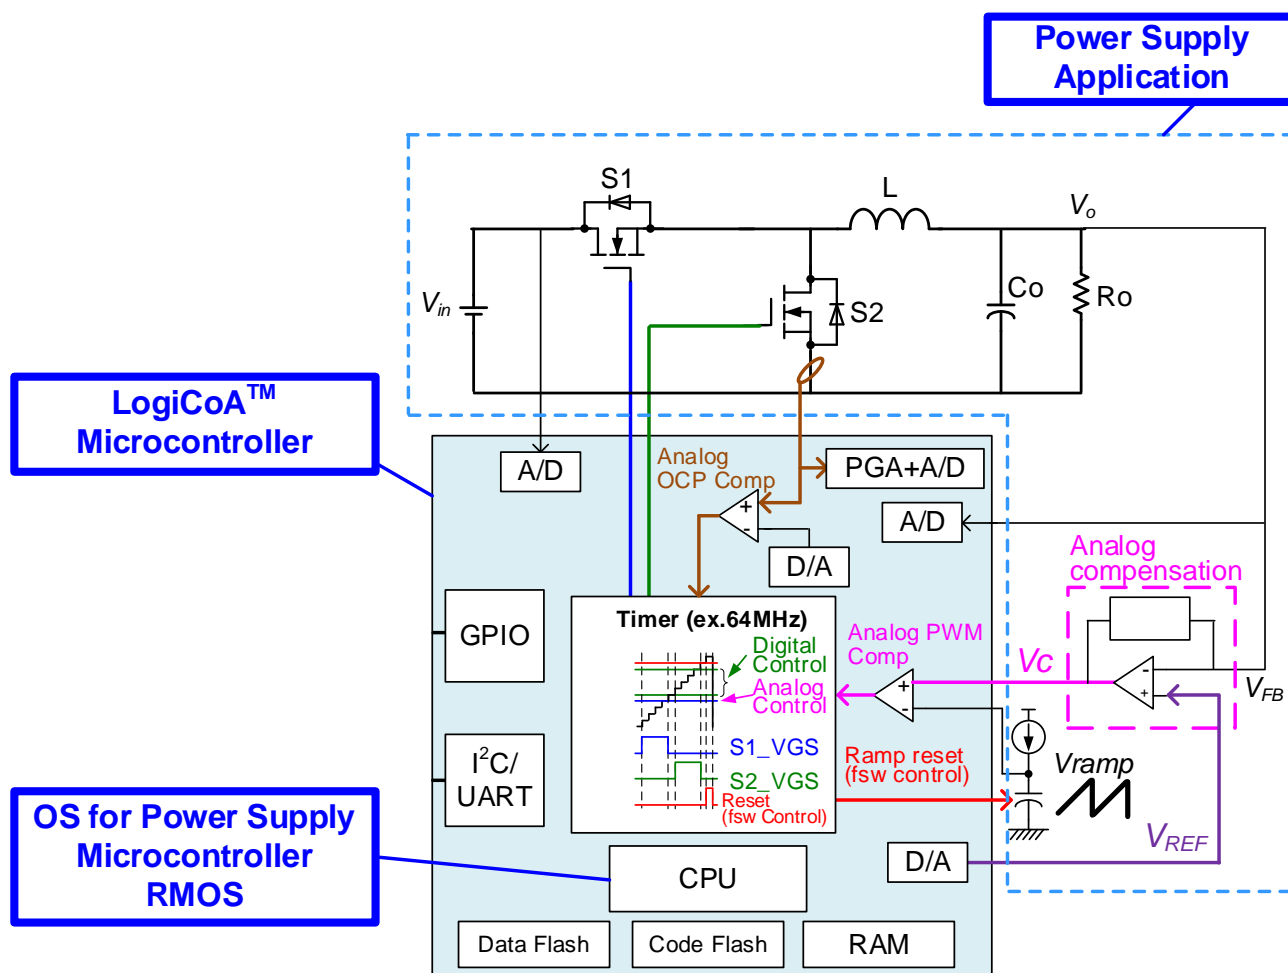

Figure 1-1. System overview of LogiCoA™ Power Solution
Figure 1-1 shows the overview of LogiCoA™ Power Solution. LogiCoA™ Power is a solution adopting analog-digital hybrid control to a switching power supply and consists from 3 elements, (1) Microcontroller for Power Supply Control (LogiCoA™ Microcontroller) ML62Q203x/ML62Q204x (hereinafter referred to ML62Q20xx group), (2) Operating System for Power Supply Control Microcontroller, RMOS, and (3) Power Supply Application. Refer to the explanation application note [1] for detail information of analog-digital hybrid control.